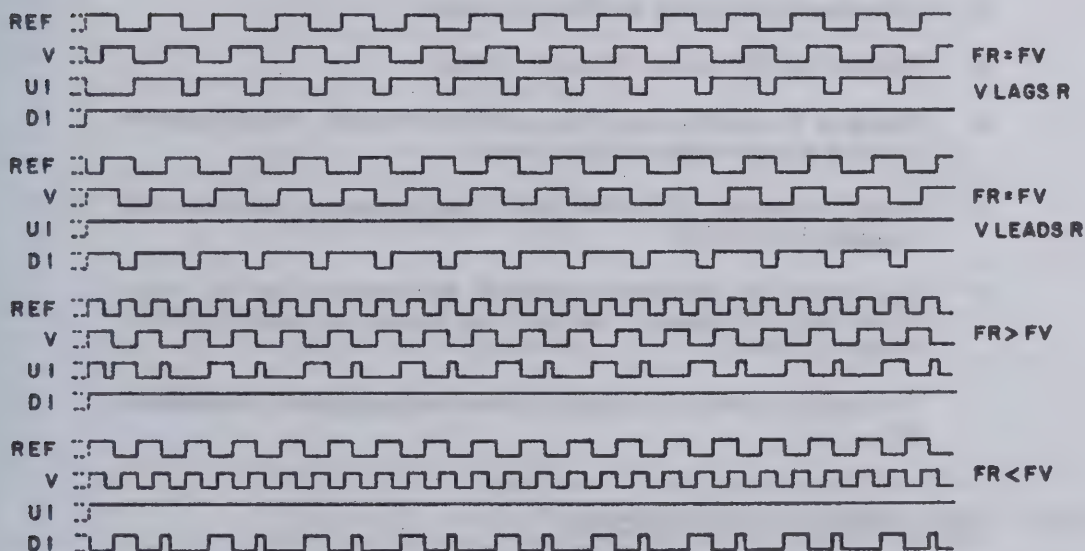

Figure 4-18. Phase Detector Timing Diagram
3. Phase Detector U5 - Check for 40 kHz signal at input pin 3 of U5. If signal is not present, troubleshoot Time Base Circuits. Check for 40 kHz signal at pin 1 of U5. If not present, troubleshoot 1st LO counter circuits. Refer to Figure 4-18 to understand the function of the phase detector.
3. Operation of U22 - Observe inputs (pins 1 and 3) and output voltage (pins 2 and 13) and compare to Figure 4-18. If a difference exists, replace U22. A normal value for the output (pin 8) is 2.0 to 3.0 Vdc.